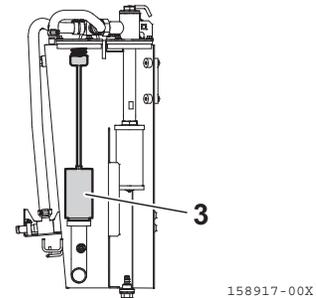

Fig. 8-57
11. Take out the filter (Fig. 8-57, 3).